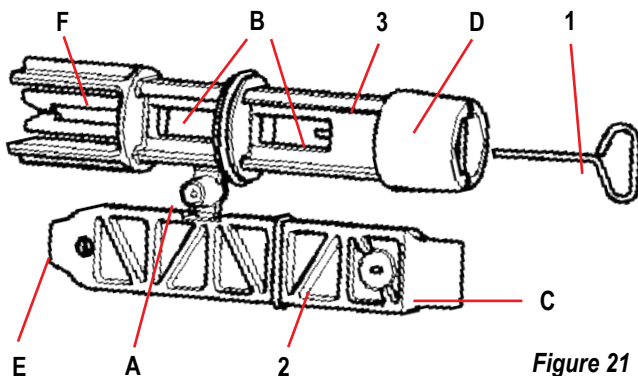

Figure 21
1. metal key with a hexagonal section (Fig.21 – 1);
2. flat plastic key (Fig.21 – 2);
3. cylindrical plastic key (Fig.21 – 3).
Key “1” is in turn inserted in the end “D” of key “3”. At the first use you must separate the 2 plastic keys “2” and “3”, which are supplied joined by a bridge (Fig.21 – A):